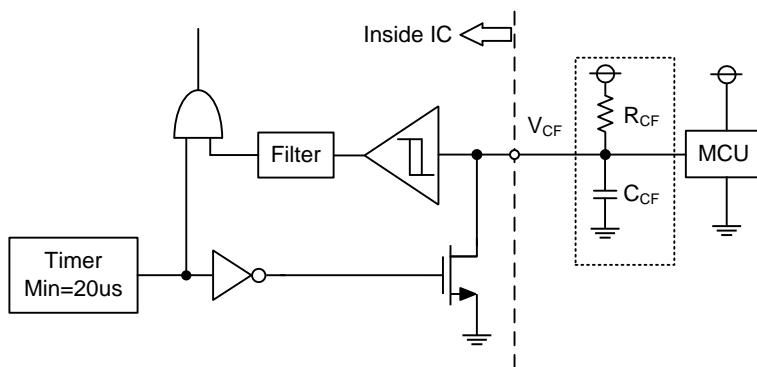

Figure 4. V_{CF} Output Circuit
- (1) If the control GND is connected with the power GND by common broad pattern, it may cause malfunction by power GND fluctuation. It is recommended to connect the control GND and power GND at a single point (N1), near the terminal of the shunt resistor.
- (2) There are two COM pins in the IPM but it is recommended to only use the (15) COM pin to minimize SC detection noise.
- (3) A zener diode D1 (24V/1W) is recommended between each pair of control supply pins to prevent surge destruction.
- (4) Prevention of surge destruction can further be improved by placing the bus capacitor as close to pin P and N1 as possible. Generally a 0.1-0.22 μ F snubber capacitor C3 between the P-N1 terminals is recommended.
- (5) Selection of the R1*C4 filter components for short-circuit protection is recommended to have tight tolerance, and is temperature-compensated type. The R1*C4 time constant should be set such that SC current is shut down within 2 μ s; (typically 1.5-2 μ s). R1 and C4 should be placed as close as possible to the C_{SC} pin. SC interrupting time may vary with layout patterns and components selection, therefore thorough evaluation in the system is necessary.
- (6) NTC signal line should be pull up to the positive side of the 5V/3.3V logic power supply with a proper resistor R2.
- (7) To prevent malfunction, traces A, B, and C should be as short as possible.
- (8) It is recommended that all capacitors are mounted as close to the IPM as possible. (C1: electrolytic type with good temperature and frequency characteristics. C2: ceramic type with 0.1-2 μ F, good temperature, frequency, and DC bias characteristics.)
- (9) Input drives are active-high. There is a minimum $3.5\text{k}\Omega$ pull-down resistor in the input circuit of IC. To prevent malfunction, the layout to each input should be as short as possible. When using RC coupling circuit, make sure the input signal levels meet the required turn-on and turn-off threshold voltages.
- (10) V_{CF} output is open drain type. It should be pulled up to MCU or control power supply (max= $5\pm0.5\text{V}$), limiting the current (I_{CF}) to no more than 1mA . I_{CF} is estimated roughly by the formula of control power supply voltage divided by the pull-up resistor R_3 . For example, if control supply is 5V , a $10\text{k}\Omega$ (over $5\text{k}\Omega$) pull-up resistor R_3 is recommended.
- (11) If only a pull-up resistor R_3 of $10\text{k}\Omega$ connected to V_{CF} pin, the fault output pulse width is fixed at minimum 20us . If a capacitor C_5 is connected with a pull-up resistor R_3 , the fault output pulse width can be controlled according to the resistor value and capacitor value. For the design guide, please refer to the Figure 4.
- (12) Direct drive of the IPM from the MCU is possible without having to use opto-coupler or isolation transformer.
- (13) The IPM may malfunction and erroneous operations may occur if high frequency noise is superimposed to the supply line. To avoid such problems, line ripple voltage is recommended to have $dV/dt \leq \pm 1\text{V}/\mu\text{s}$, and Vripple $\leq 2\text{Vp-p}$.
- (14) It is not recommended to use the IPM to drive the same load in parallel with another IPM or inverter types.